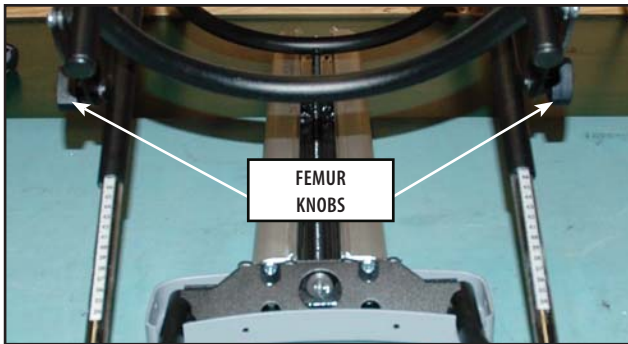

FIGURE 6.15
10. On the front end of the unit, loosen the Femur Knobs and raise the Femur Bars to full Frame Base and tighten. **Refer to Figure 6.15.**